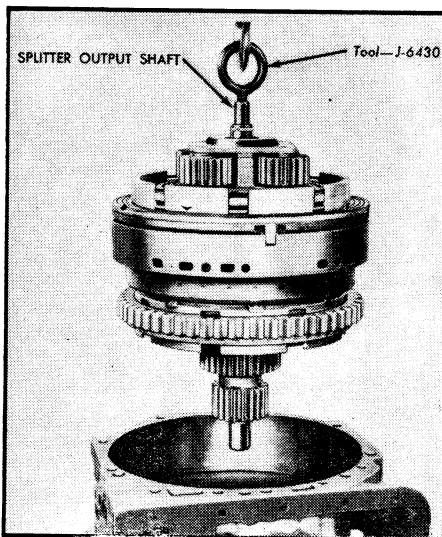

Fig. 7 Splitter mechanism
17. Remove spitter mechanism, Fig. 7.
- Install splitter mechanism, Fig. 7. The three anchor bolt holes in the high clutch diaphragm must align with the three transmission case holes, two in the bottom and one hole in the top of the housing.